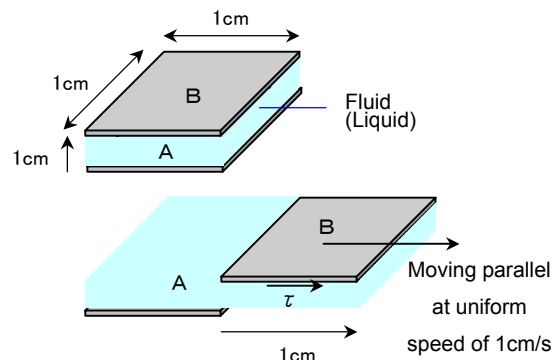

Figure 4 Geometric Definition of Viscosity
As shown in Figure 4, where stress  $\tau$  exerted on board B (inside) of unit area  $1 cm^2$  is  $1[dyne/cm^2]$  when the distance between board A and board B is 1cm and it is filled with liquid, and only board B is being moved parallel at a speed of 1cm/second (shear rate  $D = 1[s^{-1}]$ ), according to the equation (3)  $\eta = \tau / D$ , viscosity  $\eta$  of this liquid is given as 1 poise [P], or according to the equation (7), as 0.1 Pascal second  $[Pa \cdot s]$ .